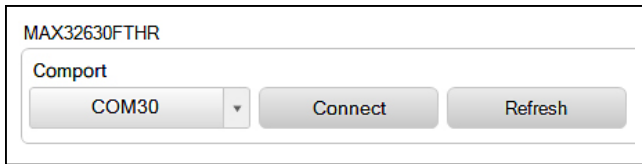

Figure 7. COM Port
- 8) If the EV kit was connected prior to starting the GUI, the expected COM port should be displayed. Select the appropriate COM port from the drop-down list (Figure 7) and click the **Connect** button. The **Connect** button changes to the **Disconnect** button. The COM port can be verified through the Windows Device Manager. The FTTH board may display under the COM ports as “Teensy USB Serial” or “Maxim USB-to-UART Adapter” and displays the associated port number.
The **Comport** section provides a drop-down list of serial communication ports available for connection to a MAX41470 EV kit through a FTHR board. When the GUI is run after connecting the EV kit hardware, the drop-down list should default to the proper COM port. If the hardware is connected to the computer after the GUI is started, click on the **Refresh** button to scan for compatible ports. Once the appropriate COM port is selected in the drop-down list, click on the **Connect** button. (See Figure 7.)